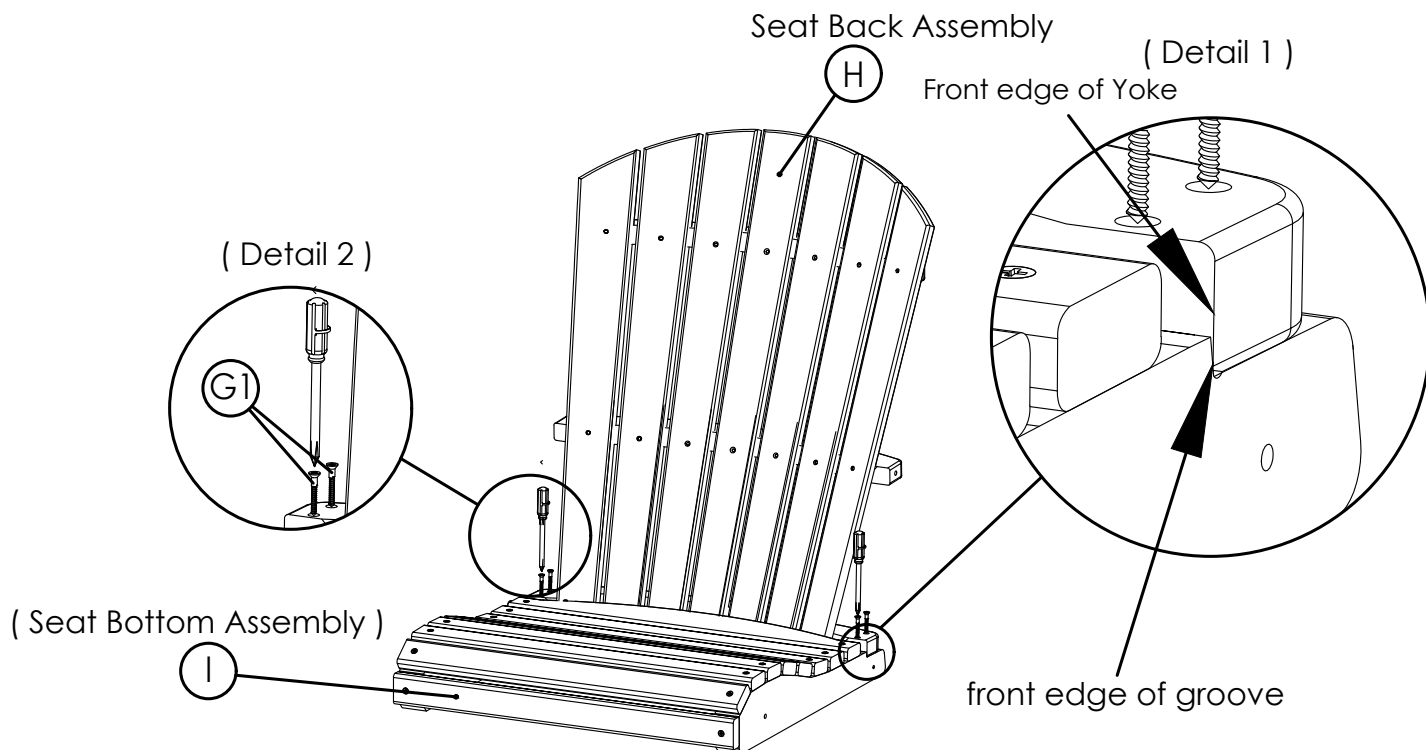
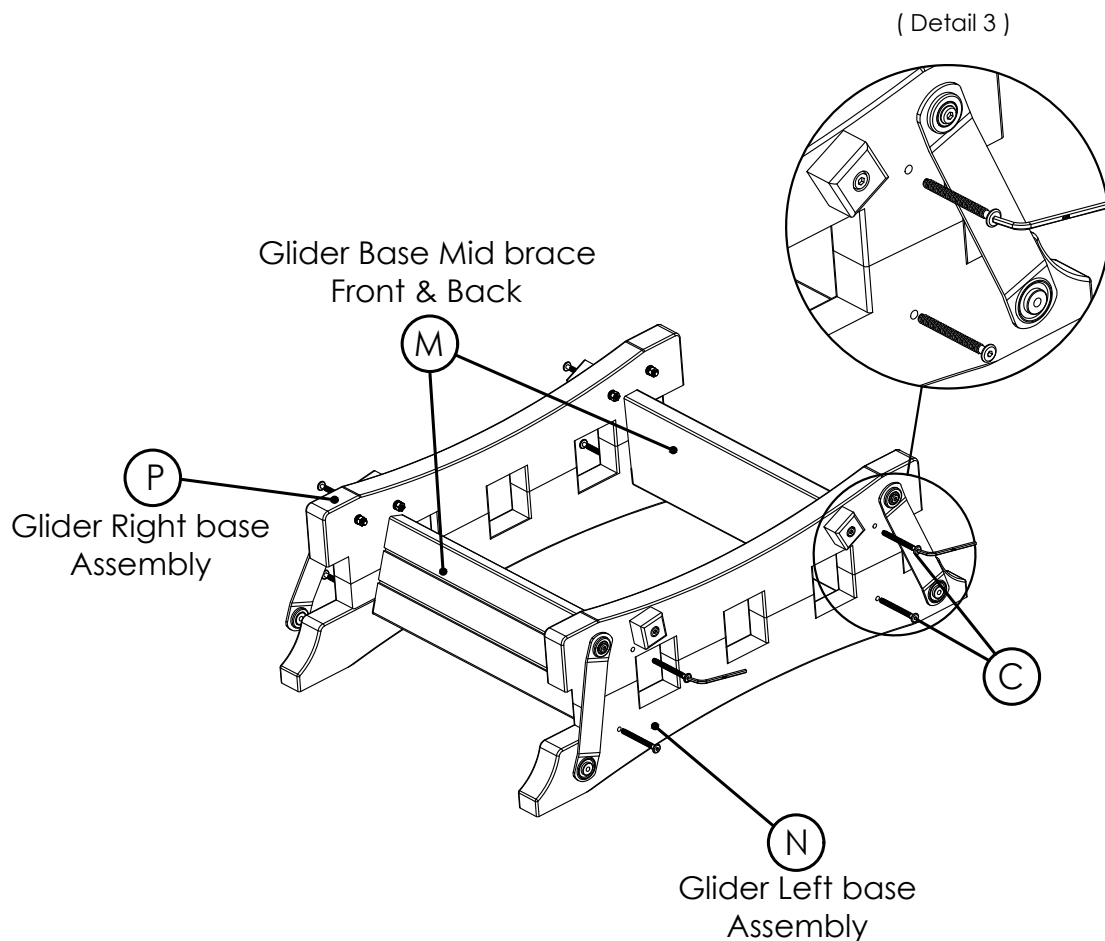

Figure 3
Figure 4
2 - Attach parts (M), Glider Base Mid Brace Front & Back , to parts (P), Glider Right Base Assembly and part (N) Glider Left Base Assembly. as show in Figure 3 see detail 3 using (8) of screw (C), 4 on each side and tighten screws using an Allen Wrench .
- 3.a - Attach part (J), Right side front and rear leg assembly, to assembly from Figure 3 as shown in Figure 4, Make sure identification marks (FR) and (RR) are facing inside towards the seat see detail 4, using (2) of joint connector bolts (A), (2) washers (D1), (2) lock washers (E1), (2) hex nuts (F1), see detail 5 tighten bolts using an Allen wrench and also an adjustable wrench. Follow the same instructions for left side front and rear leg assembly.
- 3.b - Attach part (J), Right side front and rear leg and part to seat back assembly (H), as shown in Figure 4, see detail 6, using (1) of lag screws (C), tighten screws using and Allen wrench. Follow the same instructions for left side front and rear leg assembly.
- 4 - Attach the Assembly from figure 4, (Glider Seat) to Assembly from Figure 3, (Glider Base assembly) as shown in Figure 5 See detail 7 using for each leg (1) of joint connector bolts (B), (2) washers (D2), (1) Lock washers (E2) and (1) hex nuts (F2), tighten bolts using an allen Wrench and also an adjustable wrench. Follow the same instructions for right side of glider base.